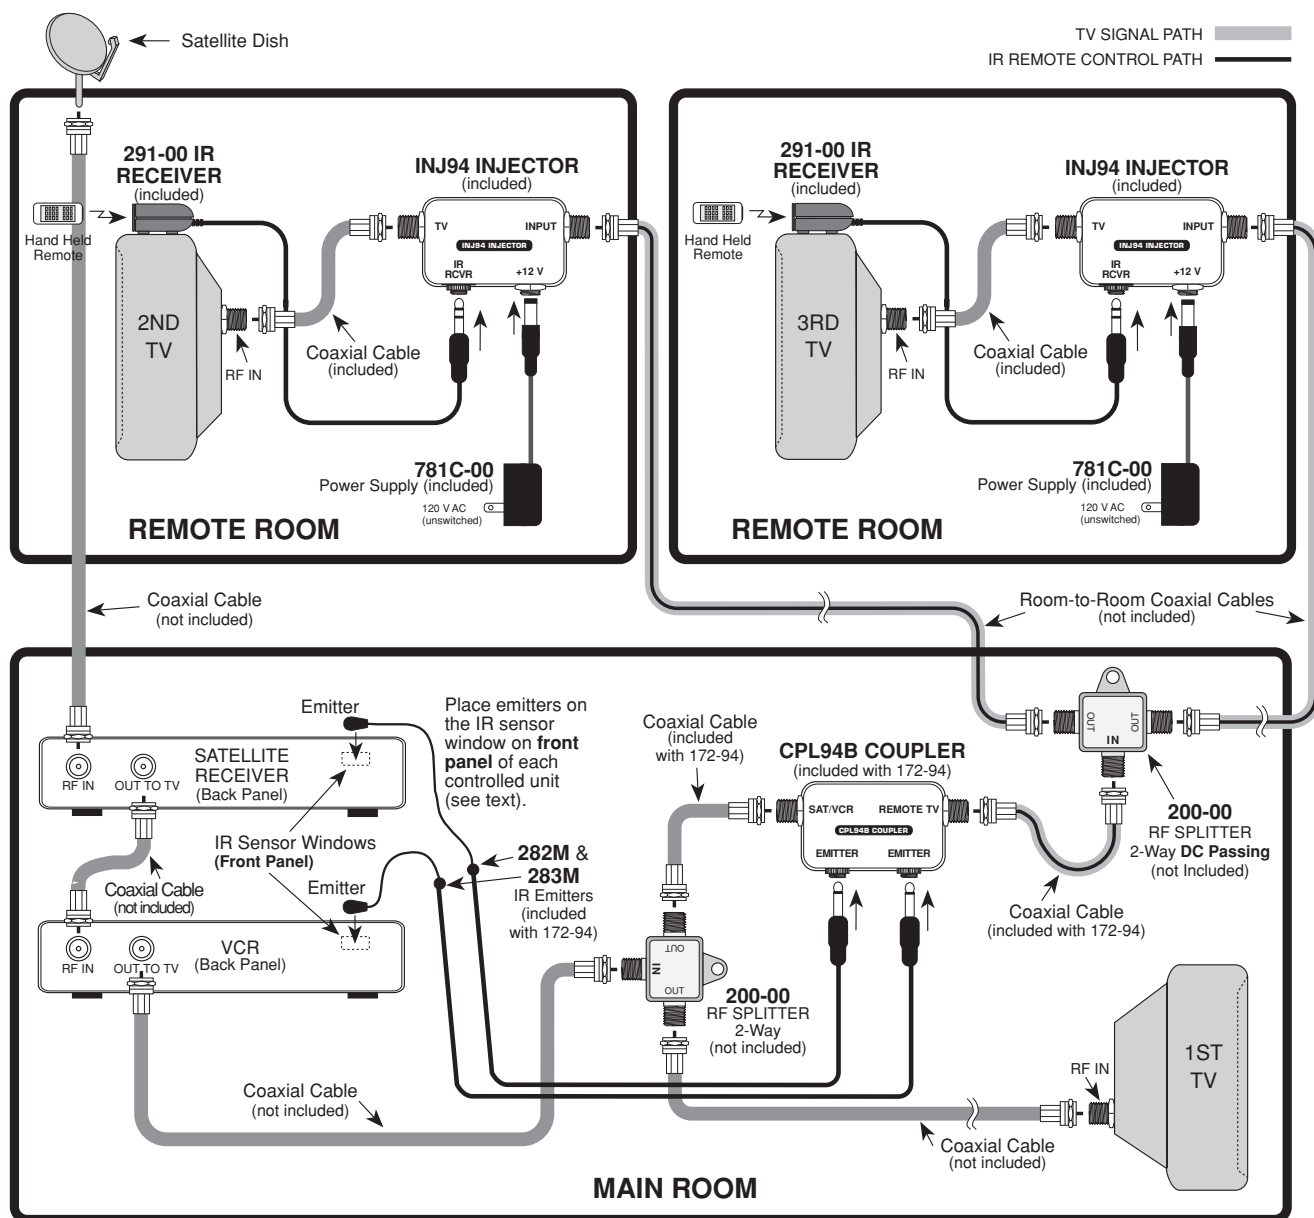
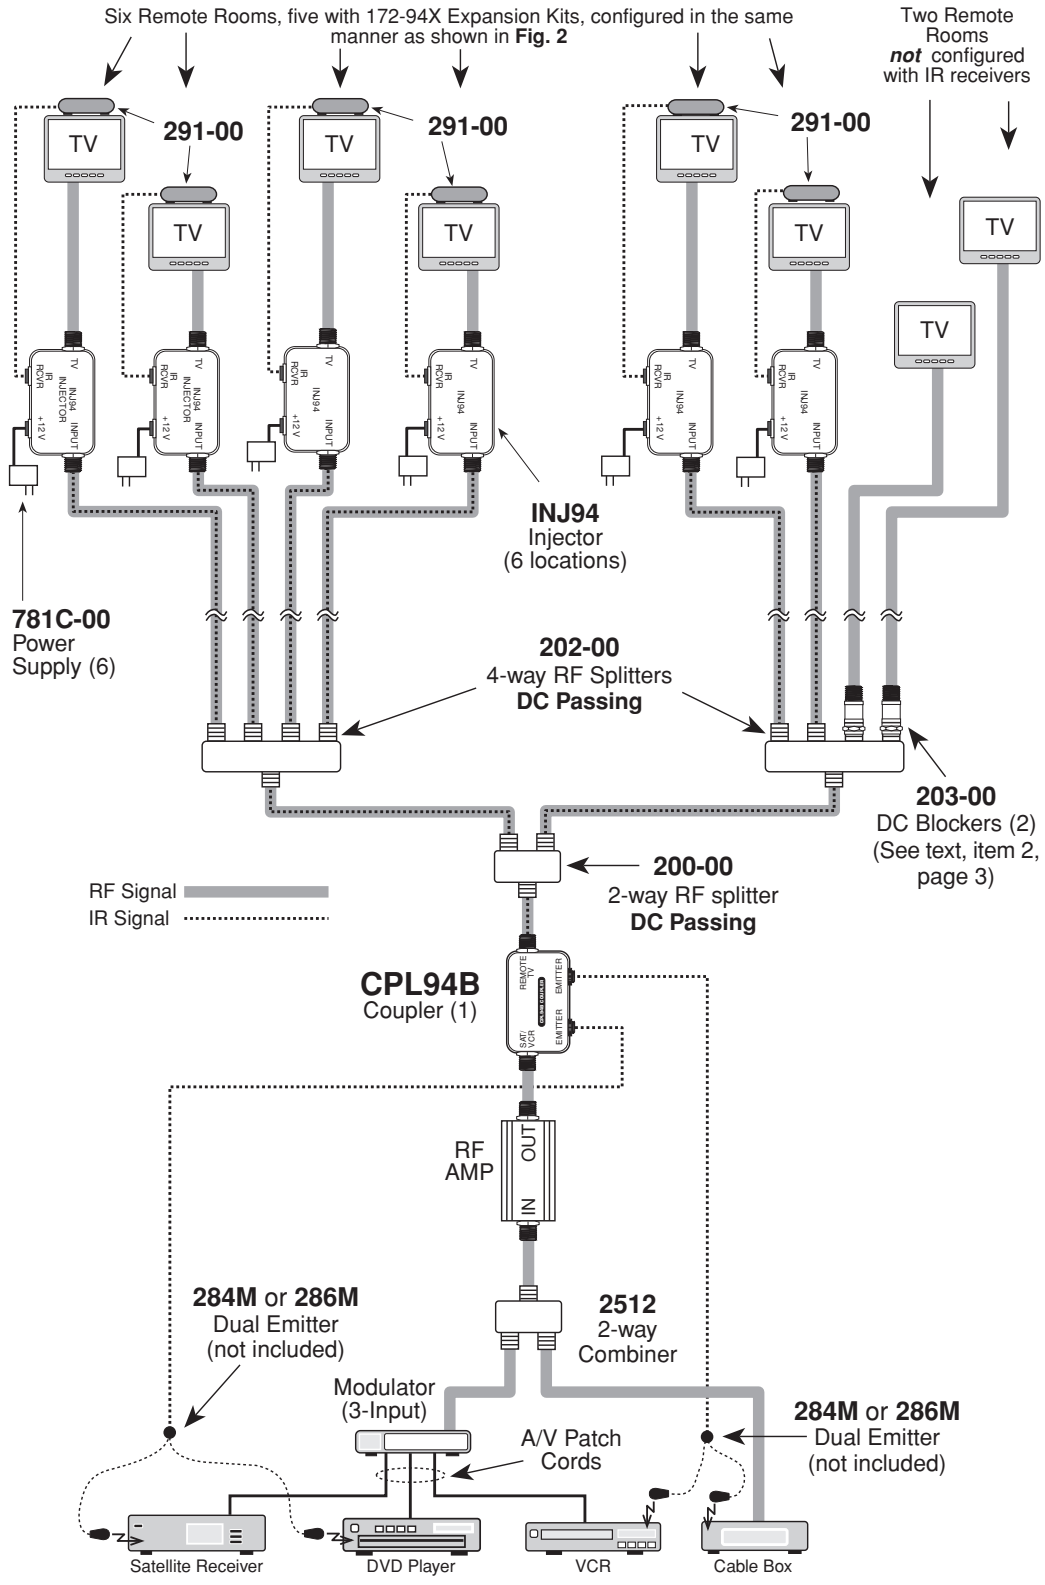

Fig. 2 Applying One 172-94X Kit For a Second Remote Rooms
Fig. 3 Using Multiple 172-94X Kits For Additional Remote Rooms
Fig. 2 shows the connections necessary when using a 172-94X expansion kit to provide remote control from an additional room.
Begin by installing a standard 172-94 kit, for one of the remote rooms. (Refer to the owner's manual for the Xtra Link 2 Model 172-94, for basic system connections). Next, using one of the 172-94X kits, install it into the second remote room, making connections as shown in Fig. 2. Note that a 2-way RF splitter is used to split the coax signal to each of the remote rooms. This splitter **must be** a DC passing type, such as the Xantech Model 200-00.
Fig. 3 shows an advanced system using six 172-94 plus five 172-94X Expansion Kits, in a multiroom installation. The connection concept is essentially the same as in Fig. 2, except for the additional splitters, RF amplifiers, etc. that need to be taken into consideration.
4. Where possible, place RF amplifiers ahead of the CPL94B Coupler, as shown in Fig. 3, instead of using a bypass kit.
Refer to **Fig. 3**. This is a **must** to prevent the RF Input of such TV sets from "shorting out" the IR control signal.